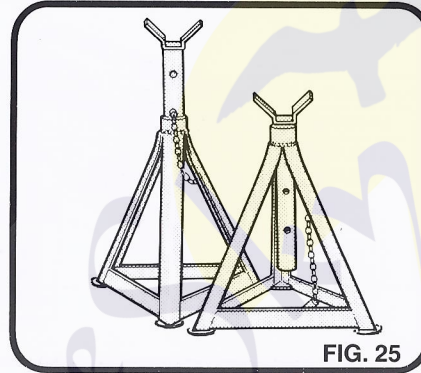

FIG. 25
**Axle Stands (Fig. 25) Part No. 356 859 (pair)**